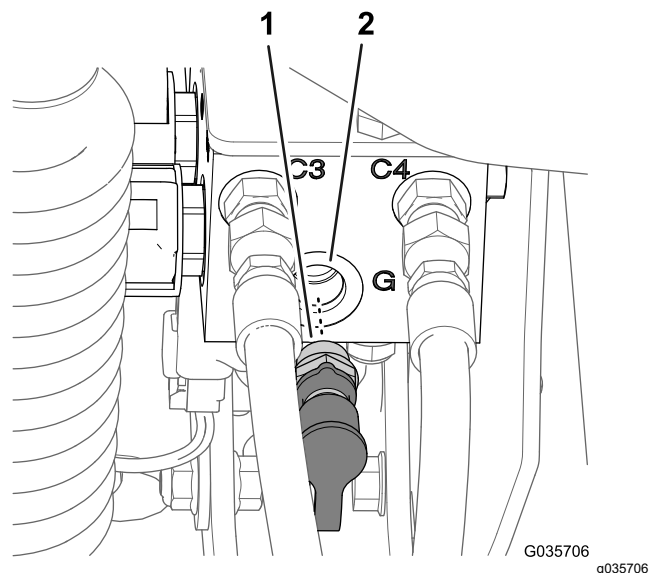

Figure 10
4. Remove the diagnostic fitting and cap from port-G of the old lift-cylinder manifold (Figure 10)